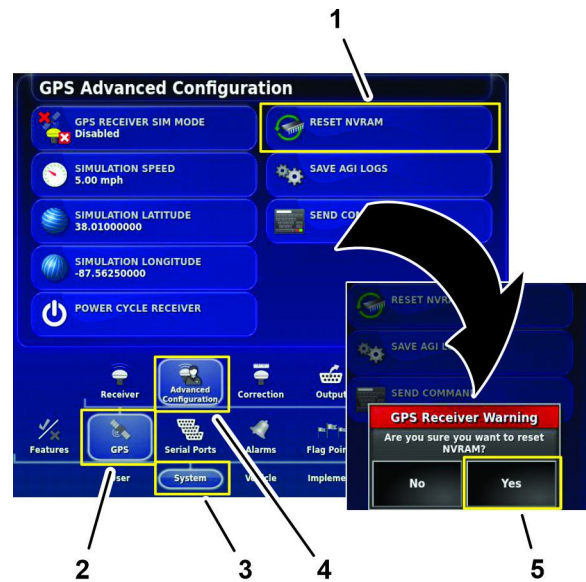

Figure 213
1. In the setup screen, press the SYSTEM icon, GPS icon, and ADVANCED CONFIGURATION icon (Figure 213).
2. In the GPS Advanced Configuration screen, press the RESET NVRAM icon (Figure 213).
3. In the GPS receive warning dialog box, press the YES icon (Figure 213).